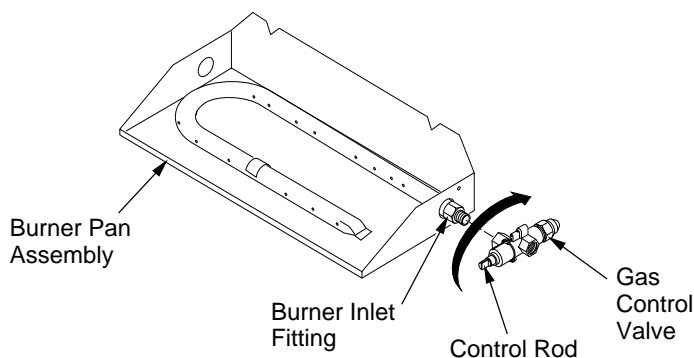

Figure 9 - Installing Gas Control Valve
1. Thread the gas control valve onto the burner inlet fitting (see Figure 9). Use thread sealant on the male threads of the burner inlet fitting. Hold the burner inlet fitting with a wrench to prevent overtightening the connection to the burner. Make sure the control rod is facing the front (see Figure 9).